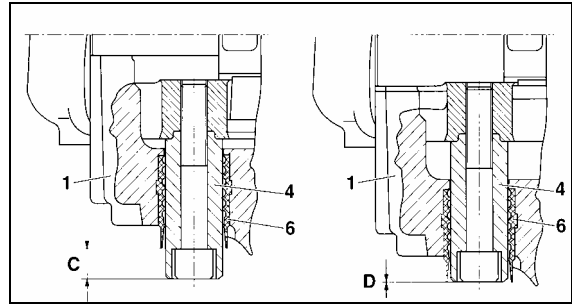

FIGURE 30: BRAKE PAD CHECK
inspecting the floating pin location in relation to the rubber bushing as shown in figure 30. When pads are in new thickness condition, the pin will be exposed (C) 19 mm (3/4"). When the pads are worn to replacement conditions, the pin will be nearly flush to the bushing (D) or within 1 mm (3/64") of the edge of the rubber bushing.